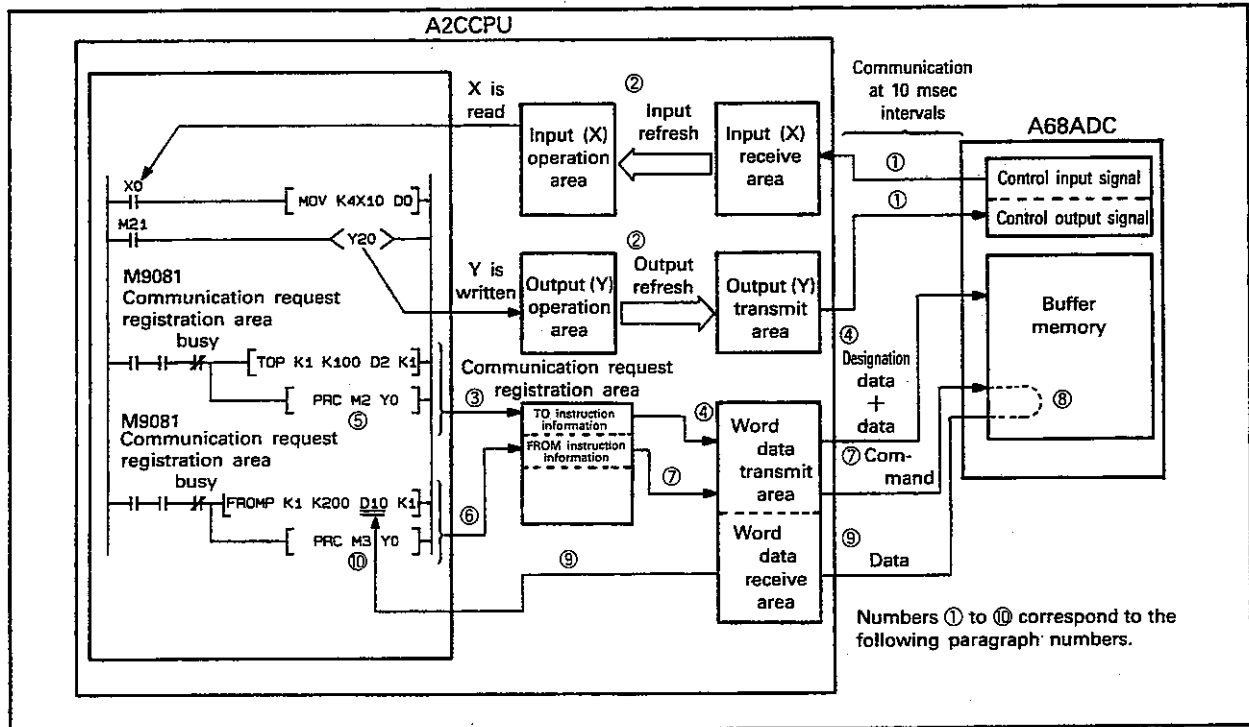

Fig. 3.1 Communication Processes
- ⑤ The communication completion flag (device M2 in Fig. 3.1) designated by the PRC instruction is turned ON for 1 scan from step 0 of the scan immediately after the response of communication completion sent from the A68ADC is received by the A2CCPU. Upon communication completion, the TO instruction information stored in the communication request register area is cleared.
(3) Reading data from the A68ADC buffer memory
- ⑥ The FROM instruction information is written to the communication request register area by the execution of the TO instruction, and registration of the FROM instruction information is completed by execution of the PRC instruction.
- ⑦ By the execution of the PRC instruction, the FROM instruction information stored in the communication request register area is transmitted in a few times of sending to the A68ADC via the word data transmit area after execution of the END instruction.
- ⑧ Upon receiving the FROM instruction information, the A68ADC sends data stored in the buffer memory of designated address back to the A2CCPU according to the information.
- ⑨ The read data is received by 1 word at 1 time of communication with the A68ADC and stored in the storage devices starting with that designated by the FROM instruction for the number of words designated.
- ⑩ The communication completion flag (device M3 in Fig. 3.1) designated by the PRC instruction is turned ON for 1 scan from step 0 of the scan immediately after the completion of storage of read data in designated devices.